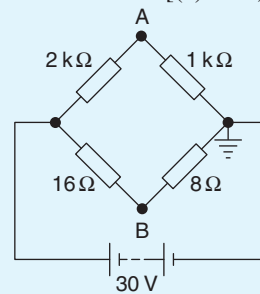

Figure 5.53
3. In the bridge circuit of Fig. 5.53 calculate (a) the absolute voltages at points A and B, and (b) the voltage at A relative to B.